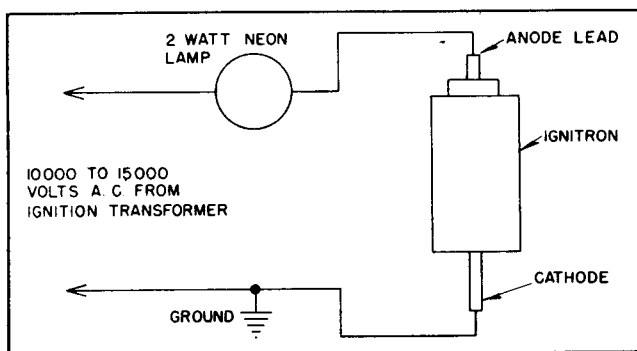

FIG. 11. Gas Test for Ignitron Tube.
(1) Remove tube from control and test tube in Westinghouse tube tester.
(2) If no tester is available, mount vertically with anode lead up and connect as shown in Fig. 11.